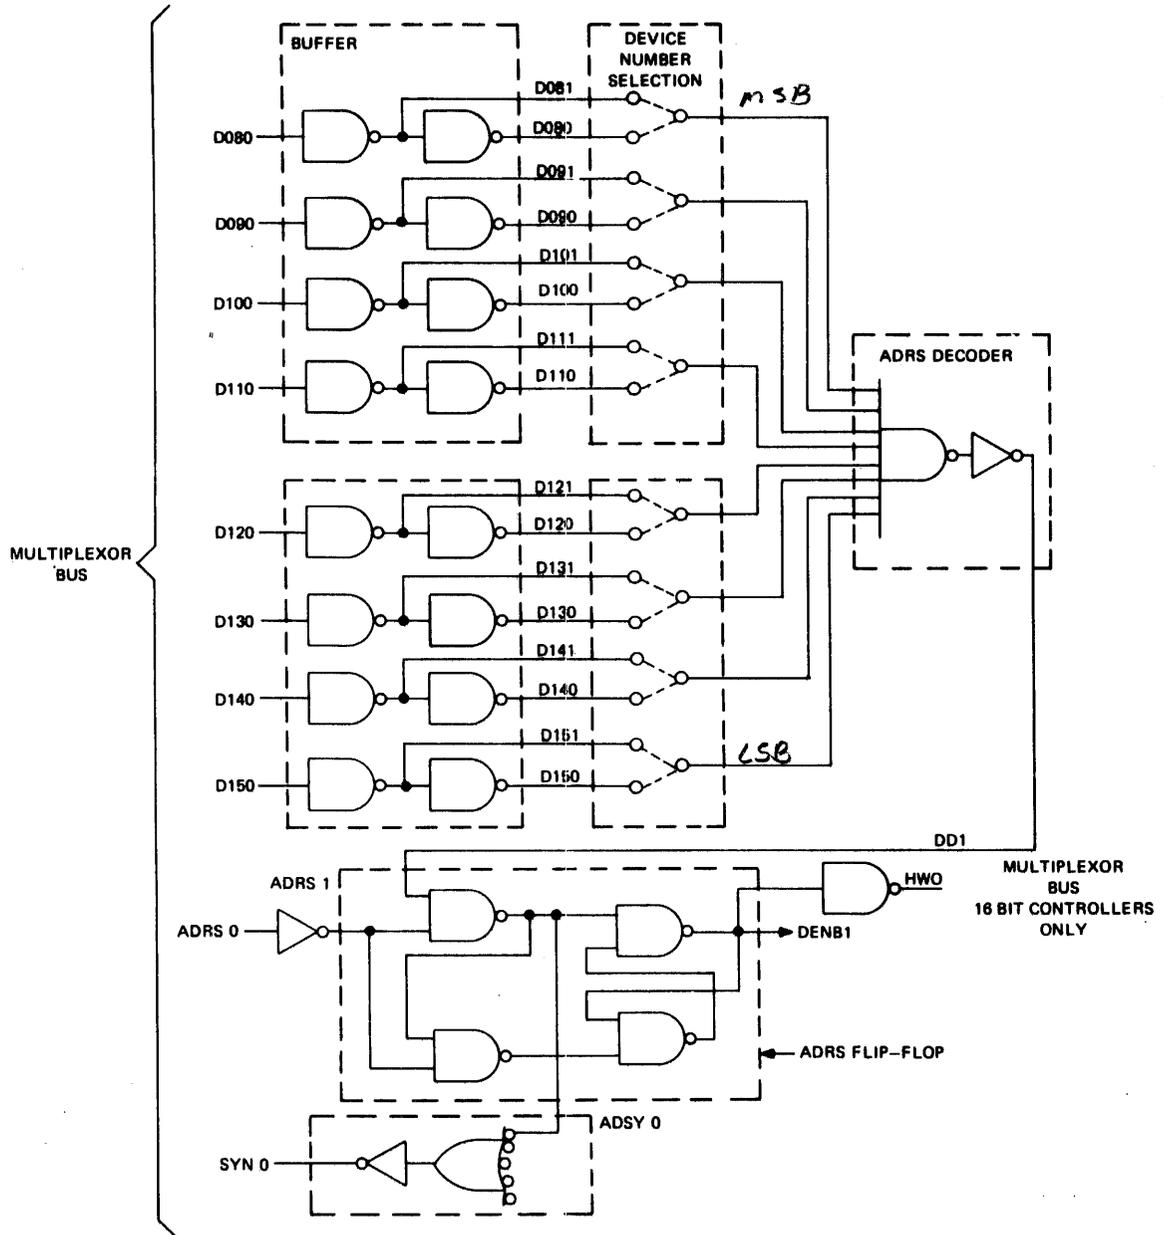
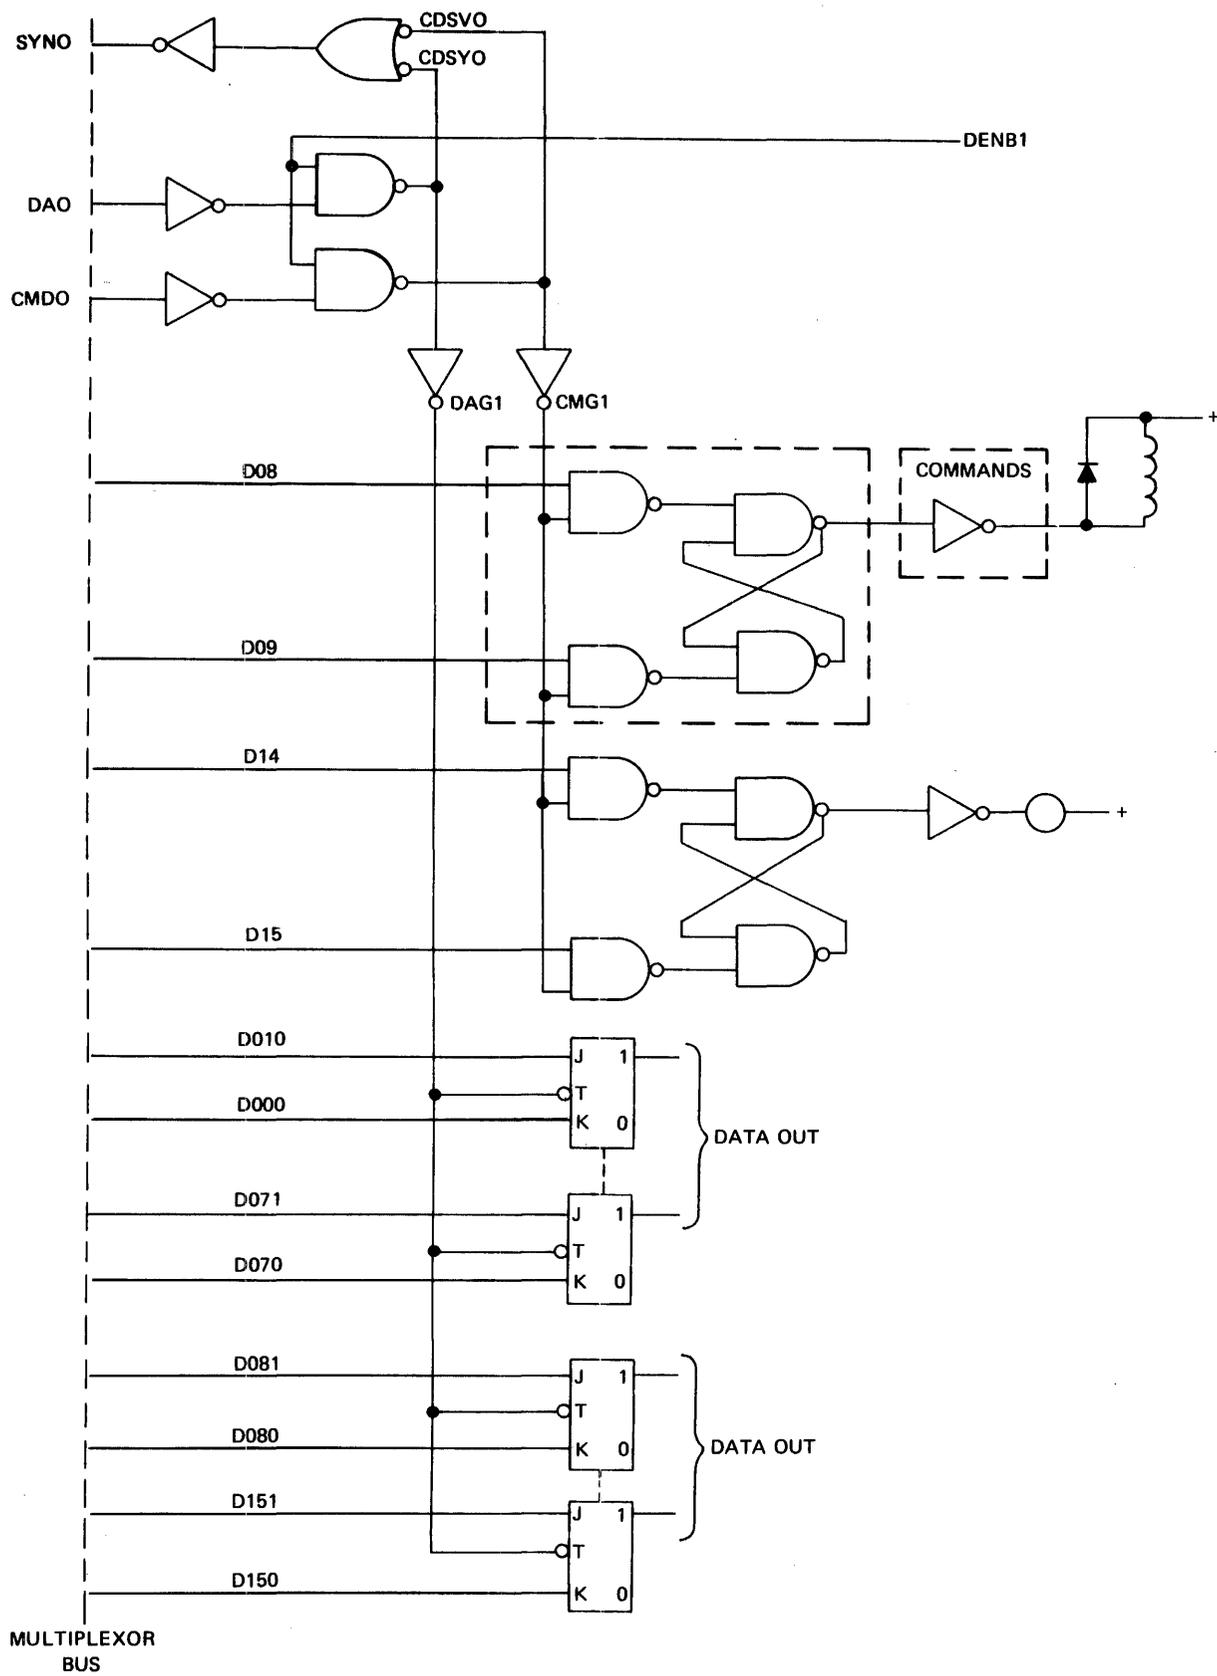
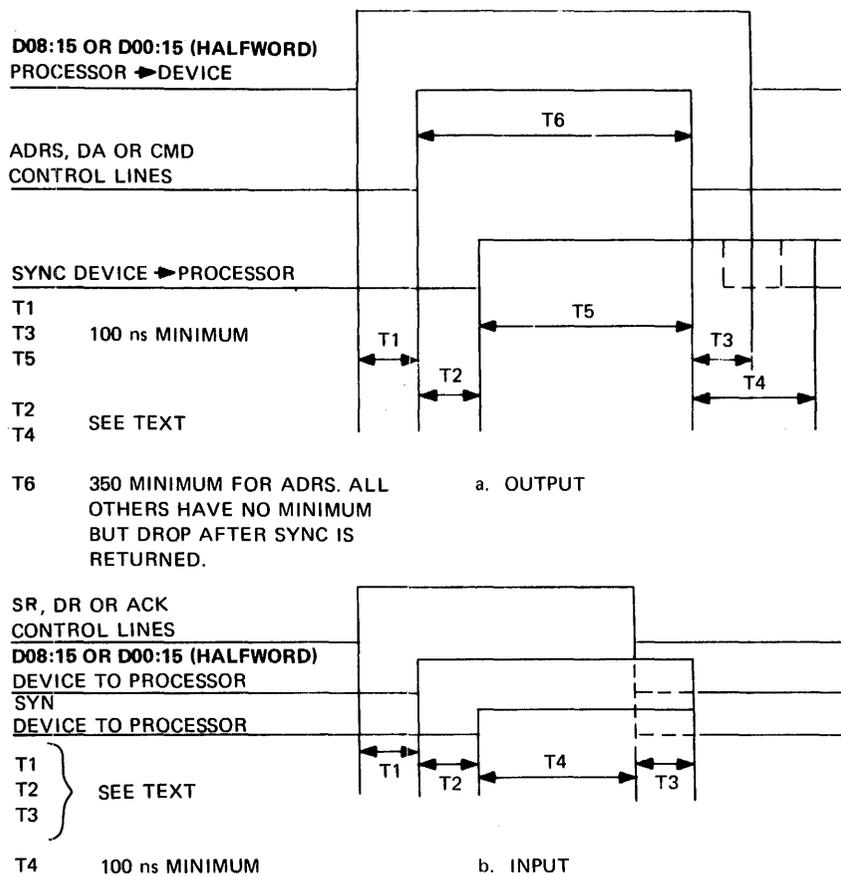

Figure 3. Device Addressing, Logic Diagram
Figure 5. Data and Command Output, Logic Diagram
Figure 7. Multiplexor Channel Timing
Refer to Figure 3. during the following description. The dotted lines around the groups of logic functions represent INTERDATA standard logic. When a device controller is addressed, the 8-bit address code is placed on the Data Lines (D080 through D150). The two buffers provide the true and false data lines. The Address Decoder circuit is hard-wired on each controller with its assigned address code, and the eight coded outputs are applied to an eight input gate. Thus, the Decoded Device output (DD1) goes true. The Address control line (ADRS1) then strobes the DD1 line into the ADRS flip-flop.
**3.3.2 Status.** Figure 3 shows how a byte of status may be read into the Processor. When the byte or halfword oriented device controller is addressed, DENB1 is high, enabling the Status Request (SR) control line from the Processor. Open collector gates are used for OR tying multiple data and status sources onto the eight Data Lines (D080 through D150).
**3.4.1 Data.** Figure 5 shows how a data byte may be output from the Processor. The buffered true and false Data Lines (D081 through D151 and D080 through D150) from Figure 3 connect to the set and reset inputs of the Data Register.
3.4.2 Command. The command lines are shown on Figure 5 as being used in the toggle mode. For example, a high on Bit 8 (D081) sets a control relay when CMG1 goes high. A high on Bit 9 (D091) resets the relay. Bits 14 and 15 are shown operating an indicator. Other pairs of bits may be used to enable/disable interrupts, etc.
Timing for typical Input/Output operations is shown in Figure 7. On the Output operation, the Processor places a signal on the data lines followed by an appropriate control line signal. This stagger (T1) will vary, but it is guaranteed to be at least 100 nanoseconds. When the device controller has received the Output Byte, the SYN signal is returned to the Processor, which terminates the control line signal. Realizing that T5 is a 100 nanosecond minimum, the SYN delay T2 should be only long enough to guarantee proper reception of the Output Byte. The control line/data line removal time (T3) is important where single-rail to double-rail operation is used; e.g., the ADRS flip-flop on Figure 2. A minimum of 100 nanoseconds is guaranteed for T3. For SYN generation as per Figure 3 the control line signal is DC coupled through the gates to form the SYN signal.
It should be emphasized that the times shown on Figure 7 are defined for signals on the Multiplexor Channel. Within a given controller, one signal may flow through more gates than another signal and these delays must be considered.